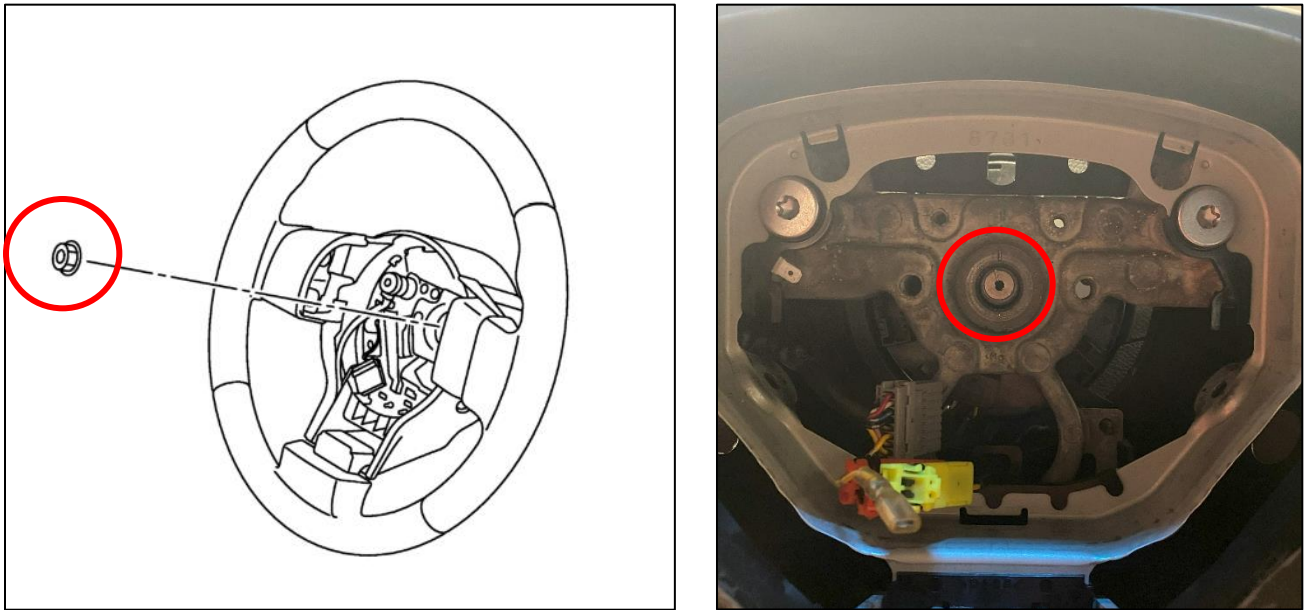

Figure 5
10. Using an impact gun, remove the nut in the center of the Steering Wheel. *Figure 5.*